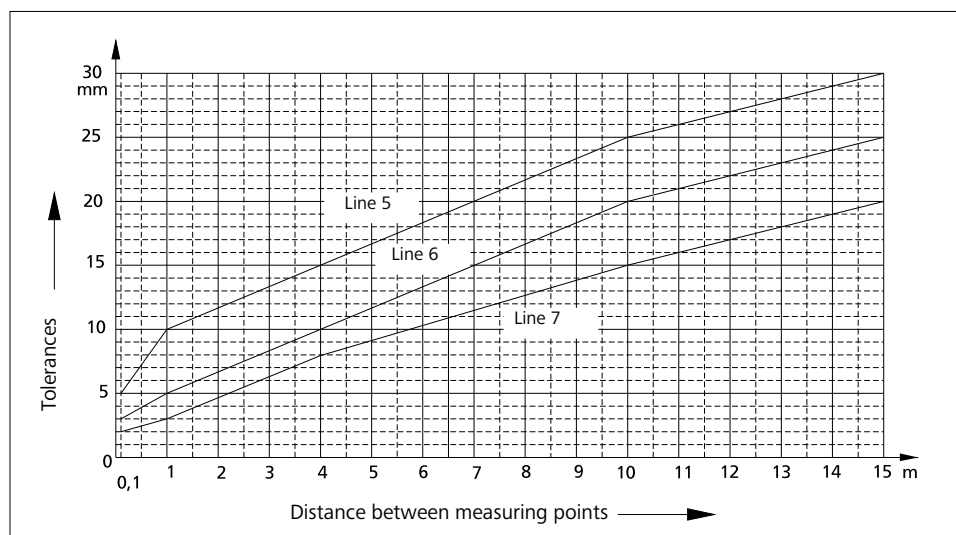

Fig. 14.2
* Intermediate values can be found in Fig. 14.2. Round up values found to full mm.